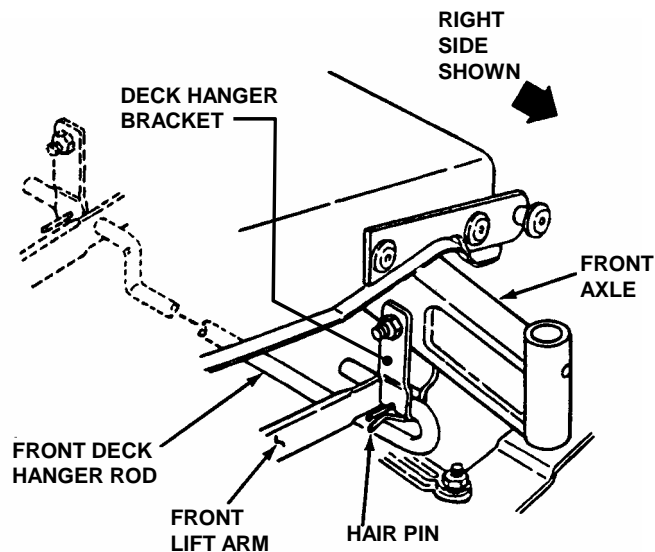

FIGURE 4.20
5. Remove hair pins from the front deck hanger rod and slide out the rod from deck hanger bracket. Front lift arms will be now be disconnected. See Figure 4.20.